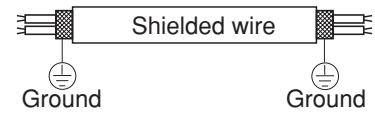

Fig. 5-4
- (5) Use shielded wires for inter-unit control wiring (c) and ground the shield on both sides, otherwise misoperation from noise may occur. (Fig. 5-4)